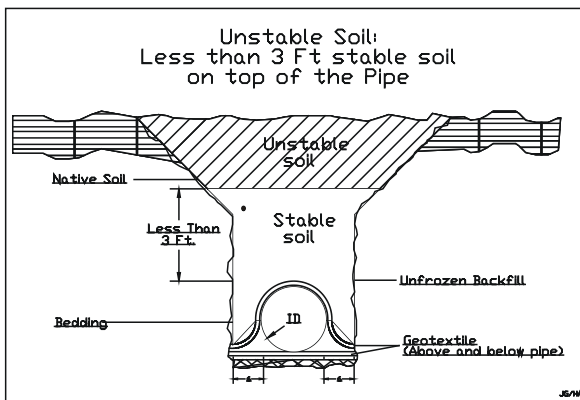

Figure 3 - Geotextile installation
- C. **Stabilization of the soil** can be achieved with a filter cloth such as Geotex®. This material has proven useful to stabilize the ditch bottom in boggy, wet conditions. Geotextile can be placed below the pipe to reduce sinking and above the pipe to stabilize backfill (Figure 3).